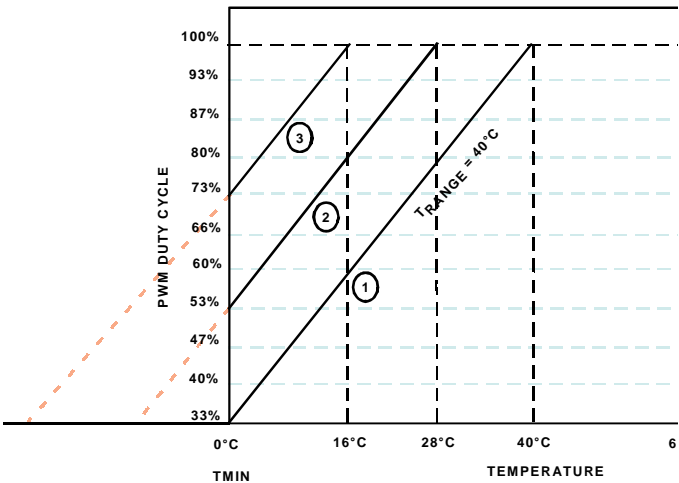

Figure 25. Effect of Changing Minimum Duty Cycle on Control Loop with fixed  $T_{MIN}$  and  $T_{RANGE}$  values
Slope 1 of Figure 25 shows  $T_{MIN}$  set to  $0^{\circ}C$  and the  $T_{RANGE}$  chosen is  $40^{\circ}C$ . In this case, the fan's PWM duty cycle will vary over the range 33% to 100%. The fan will run full-speed at  $40^{\circ}C$ . If the minimum PWM duty cycle at which the fan runs at  $T_{MIN}$  is changed, its effect can be seen on Slopes 2 and 3. Take case 2, where the minimum PWM duty cycle is reprogrammed from 33% (default) to 53%. The fan will actually reach full-speed at a much lower temperature;  $28^{\circ}C$ . Case 3 shows that when the minimum PWM duty cycle was increased to 73%, the temperature at which the fan ran full-speed was  $16^{\circ}C$ . So the effect of increasing the minimum PWM duty cycle, with a fixed  $T_{MIN}$  and fixed  $T_{RANGE}$ , is that the fan will actually reach
**$T_{MAX} = 28^{\circ}\text{C}$**  ( As seen on slope 2 of Figure 25)
**$T_{MAX} = 16^{\circ}\text{C}$**  ( As seen on slope 3 of Figure 25)
**$T_{MAX} = 40^{\circ}\text{C}$**  ( As seen on slope 1 of Figure 25)